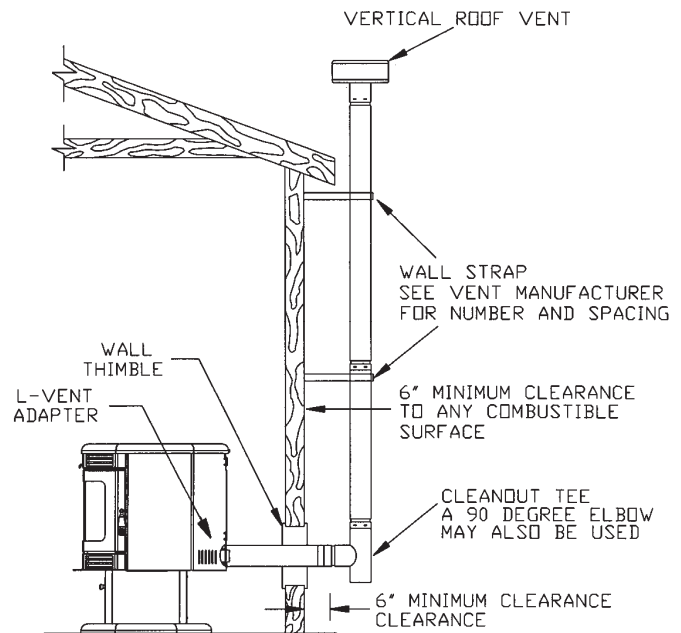

FIGURE 8
A. HORIZONTALLY THROUGH WALL (refer to Figure 8)